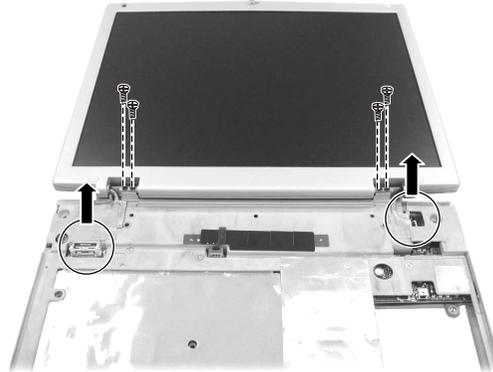

Figure 2-10 Remove the LCD module
4. Open the top cover. Unplug the two cable connectors coming from the LCD assembly, and remove four screws from the hinges. Now you can separate the LCD assembly from the base unit. (See Figure2-10)